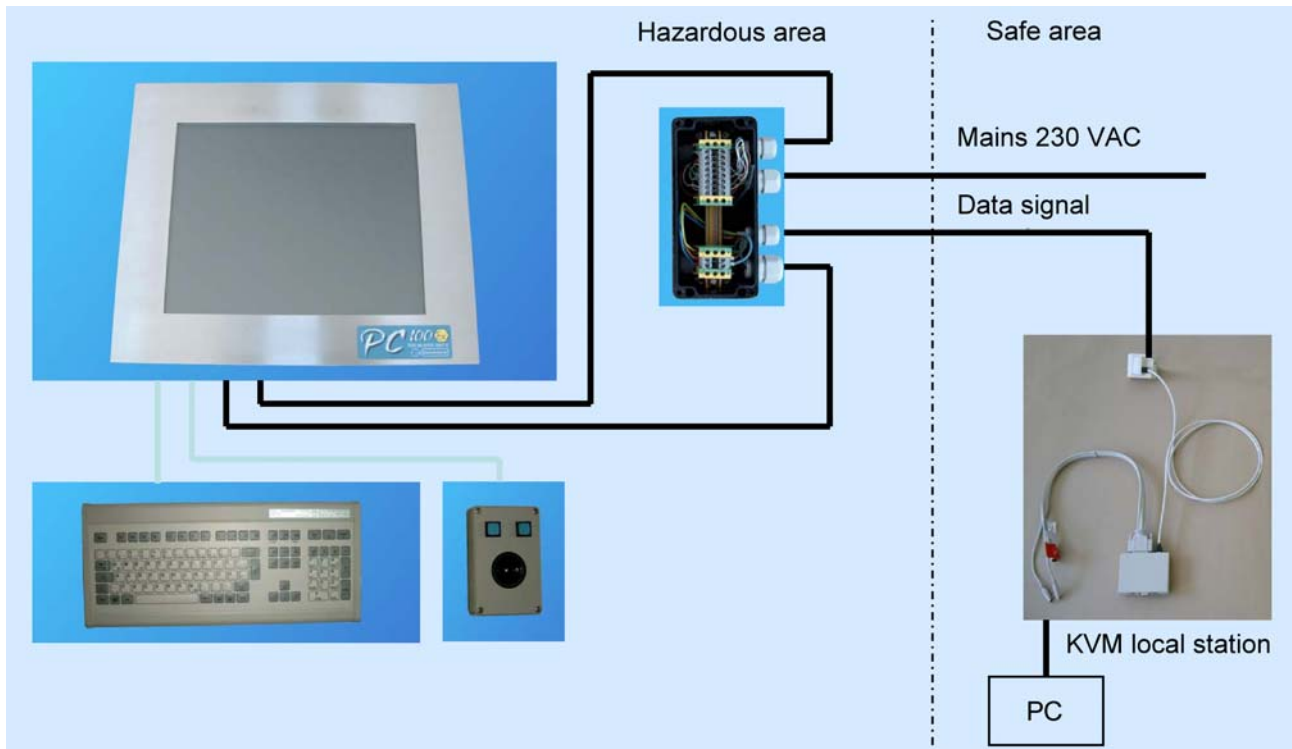

Figure 1: PC100 System, Data transfer with analogous KVM
Remark: the colours of the wires are according the EIA/TIA standard. In your experience the "Orange / white" wire is only orange. So we used this colours in figure 1
2. Connect the net work cable (4 x 2 x AWG) to the EEx e box inside of the PC100 (as shown in figure 1) and the patch box